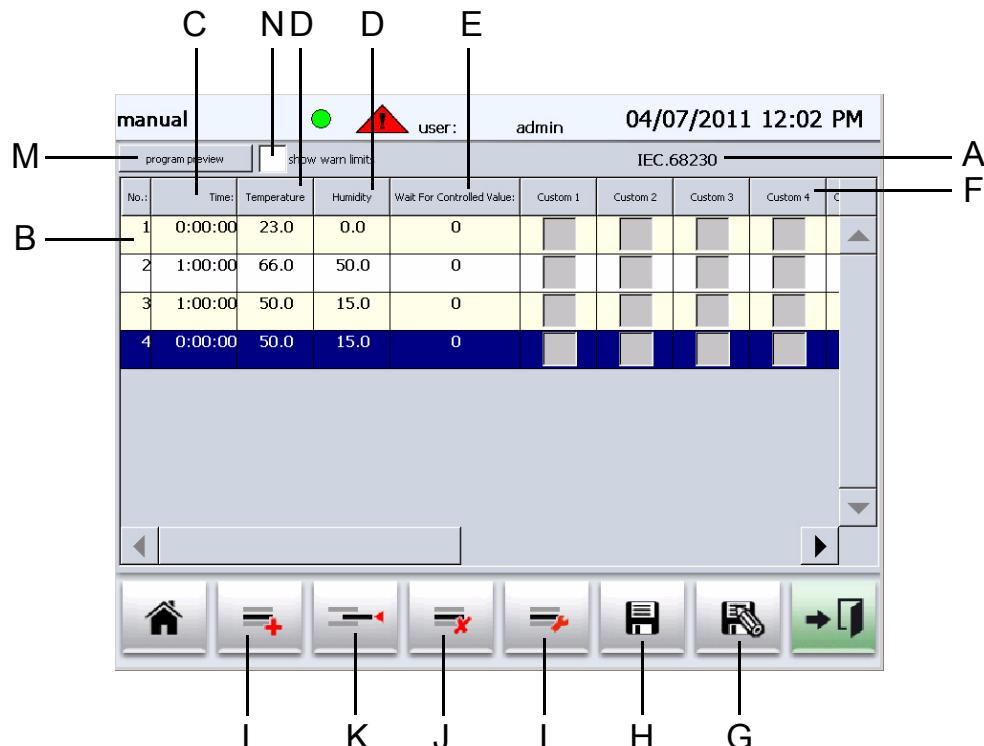

Fig. 5-2
- Refer to chapter 5.1.1, Fig. 5-2 (page 57)
The program editing menu appears → Fig. 5-2 (page 57). The program only contains 1 segment.